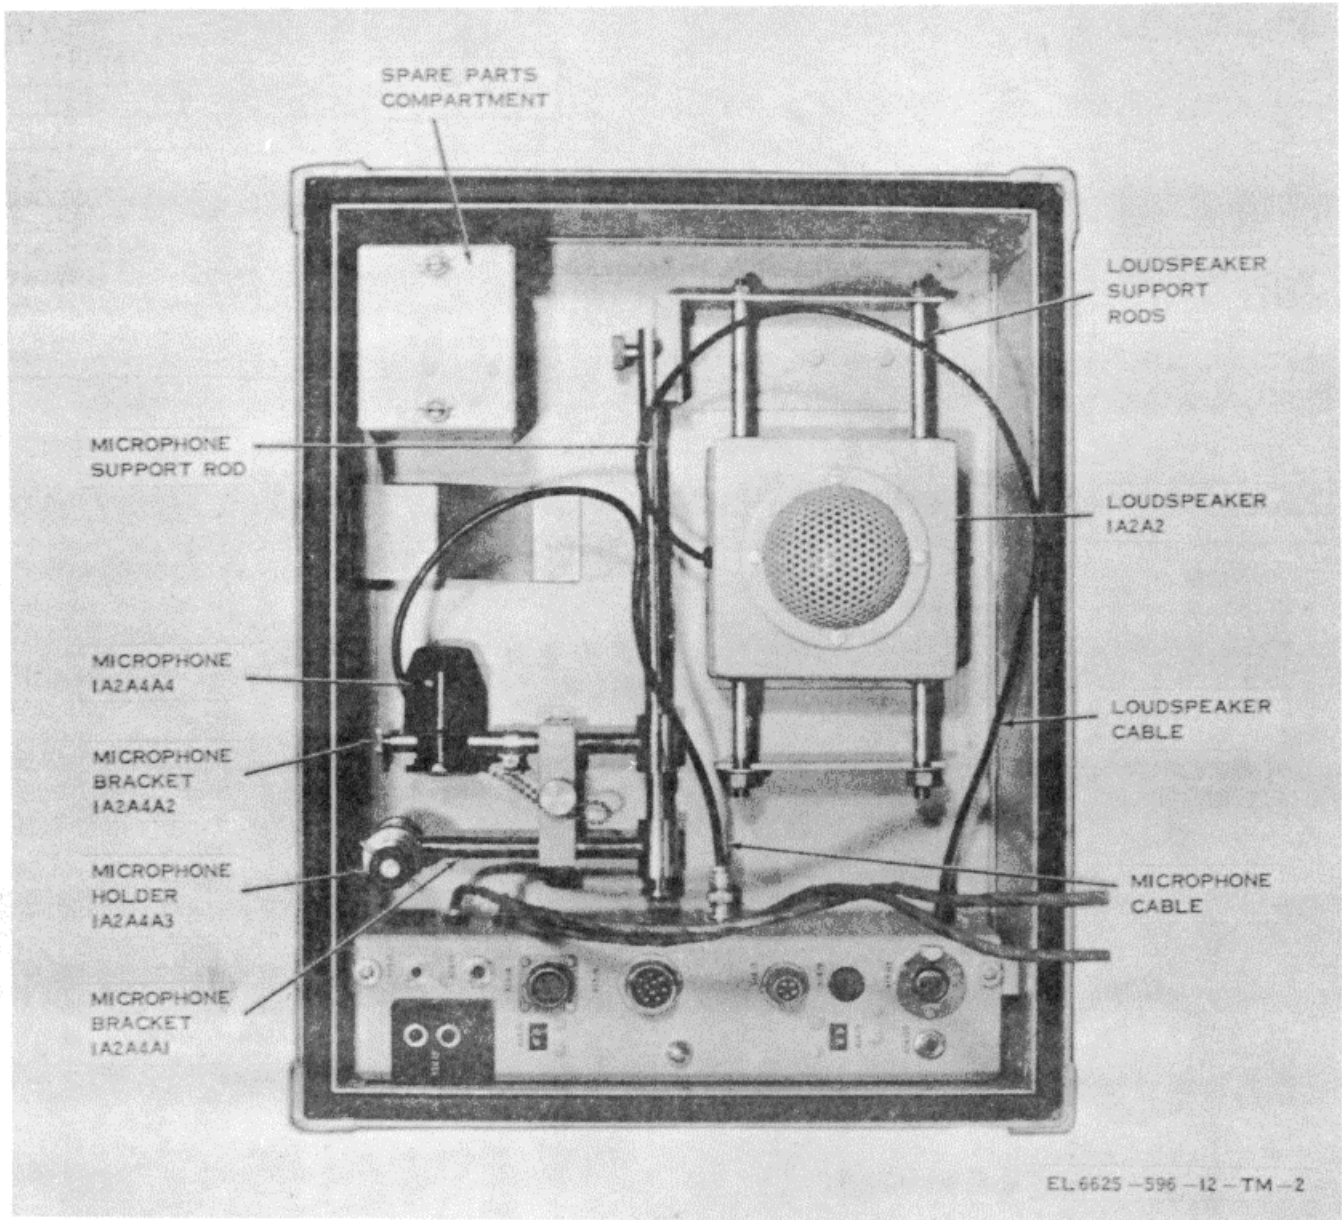
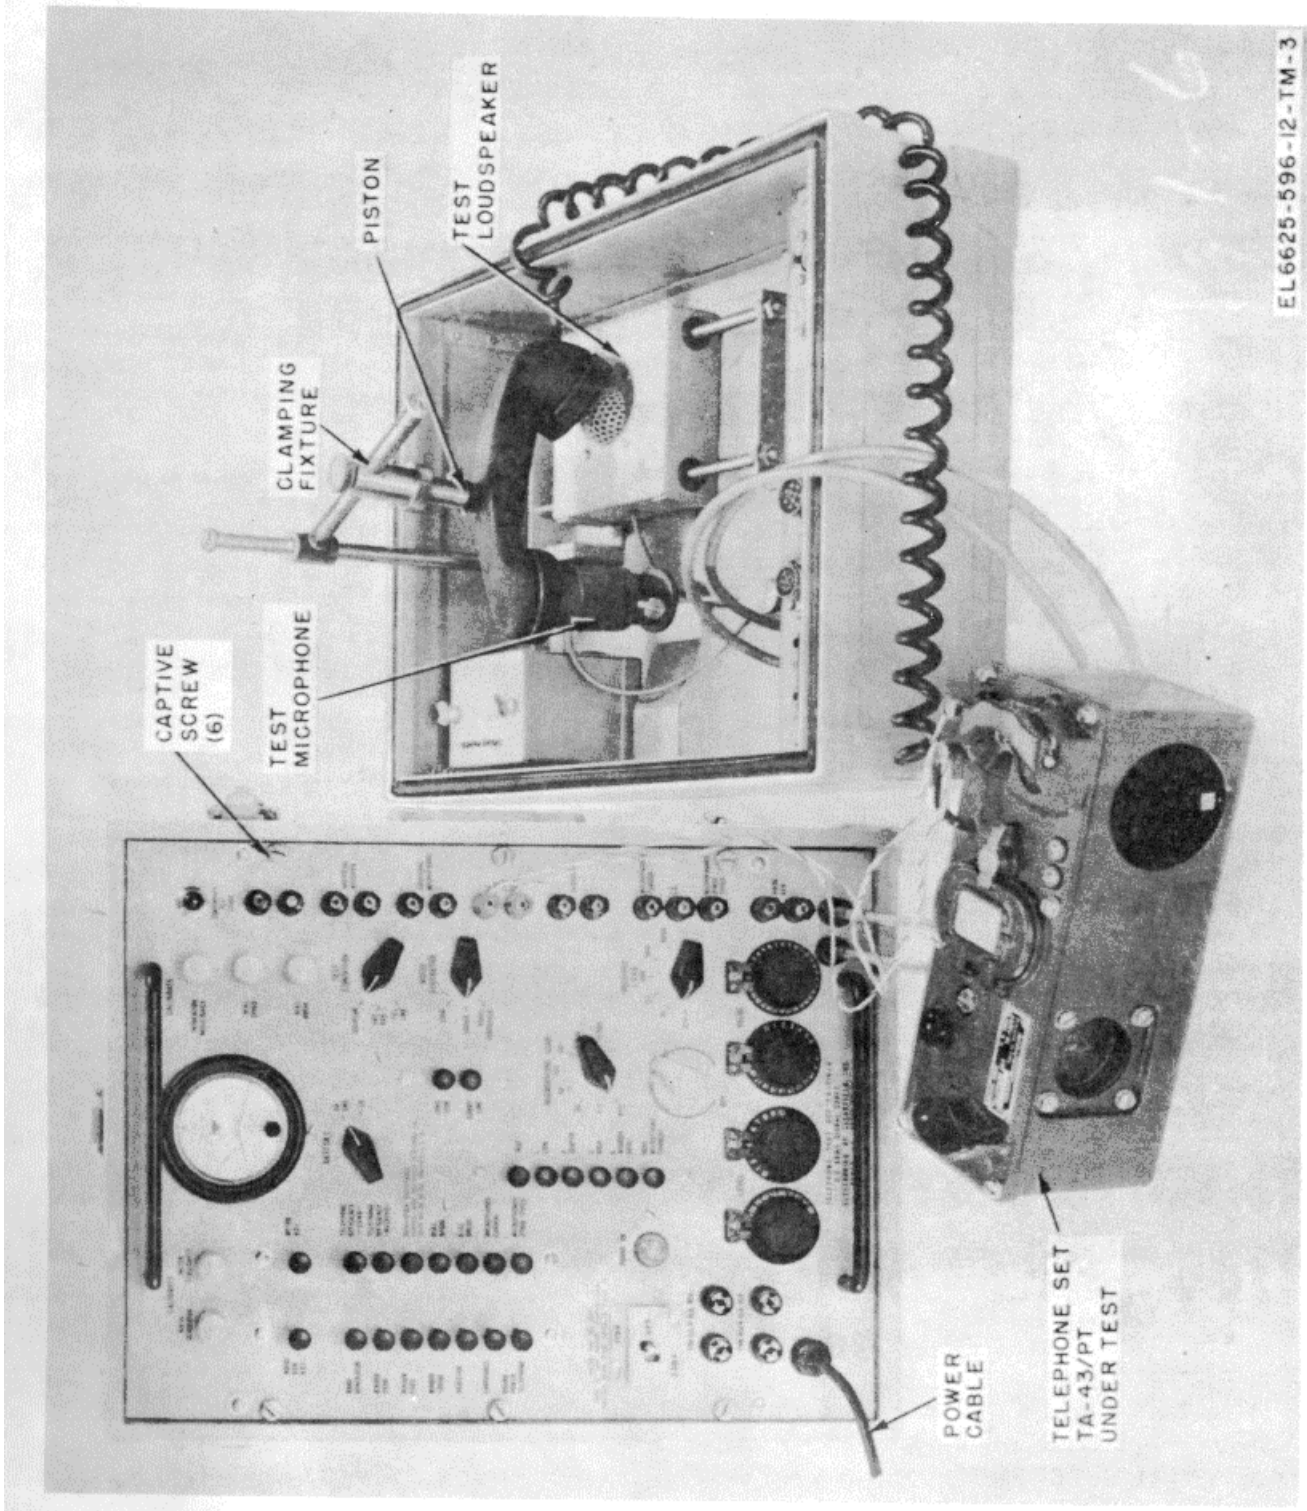
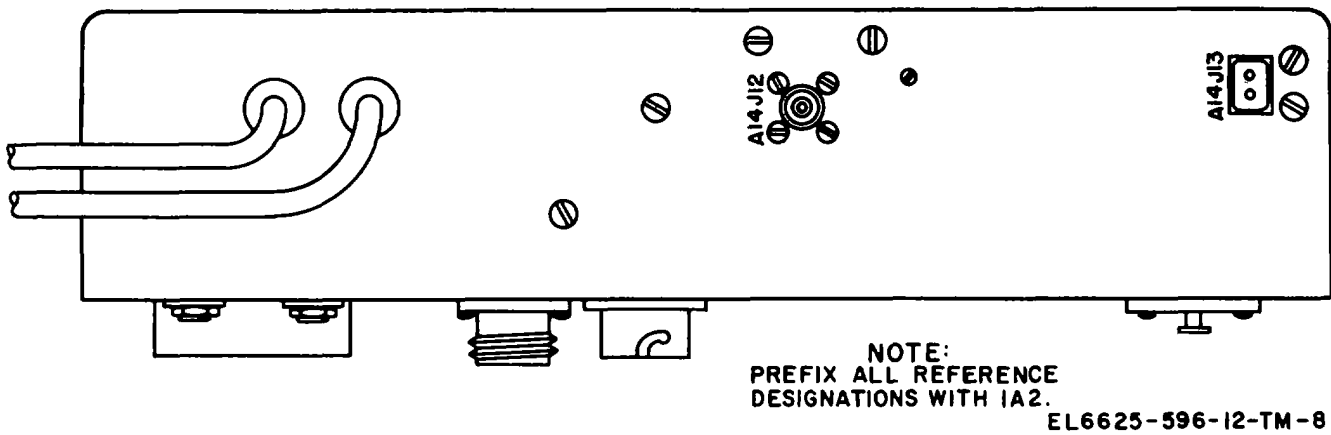

Figure 1-2. Top case assembly 1A2
Figure 1-3. Telephone test set TS-716/U, typical test setup.
Figure 2-2. Electrical test panel 1A2A14, top view.
- b. Top Case Assembly 1A2. (fig 1-2) Assembly 1A2 (the top of the carrying case) contains the following items.
- (1) Loudspeaker 1A2A2. Loudspeaker 1A2A2 is a permanent magnet test loudspeaker mounted in a metal case with a perforated metal
(2) Spare Parts Assembly 1A2A3. Assembly 1A2A3 provides storage space for the spare fuses and lamps listed in appendix B. A three-contact receptacle which mates with the TS-716/U power plug is mounted on the cover of 1A2A3. When the TS-716/U is prepared for storage or shipment, the power plug is inserted in the receptacle to prevent movement of the power plug.
(3) Microphone Stand Assembly 1A2A4. Assembly 1A2A4 includes a test microphone and an acoustical coupler which are shown in figure 1-2 clamped for shipment or storage and are shown in figure 1-3 in the operating position. The test microphone is mounted on a support arm such that the microphone can be rotated 360° on the support arm. The support arm may be raised, lowered, or rotated on the coupler support bar as required. The microphone holding fixture can be moved horizontally on its support arm and, by means of a spring-loaded cylinder, can be moved vertically to exert pressure on any item that is to be held over the loudspeaker, microphone, or both (fig. 1-3). The test microphone cable mates with connector 1A2A14J12 ((4), below).
(4) Electrical Test Panel 1A2A14. Panel 1A2A14 contains various types of receptacles for connecting transducers to be tested, one receptacle for connecting the test microphone, and one receptacle for connecting the test loudspeaker. The following chart lists the reference designations of the 1A2A14 receptacles and indicates what each mates with. The location of the 1A2A14 receptacles is illustrated on figures 1-2 and 2-2.
- (1) Remove the powerline plug from the clip on the side of the spare parts compartment (fig. 1-2).
- (2) If the loudspeaker and microphone cables (fig. 1-2) are connected, remove them from jacks 1A2A14J12 and J13 (fig. 2-2).
(3) Remove the three captive screws (fig. 1-2) that secure electrical test panel 1A2A14 to top case assemble 1A2 and lift out 1A2A14.
(4) Remote the six captive screws (fig. 1-3) that hold test rack assembly 1A3 and panel chassis assembly 1A4 in bottom case assembly 1A1. Lift the dual chassis by the two handles on panel chassis assembly 1A4 and remove the dual chassis from bottom case assembly 1A1.
c. Connect the test microphone cable to 1A2A14J12 and the test loudspeaker cable to 1A2414J.13 (figs. 2-2).